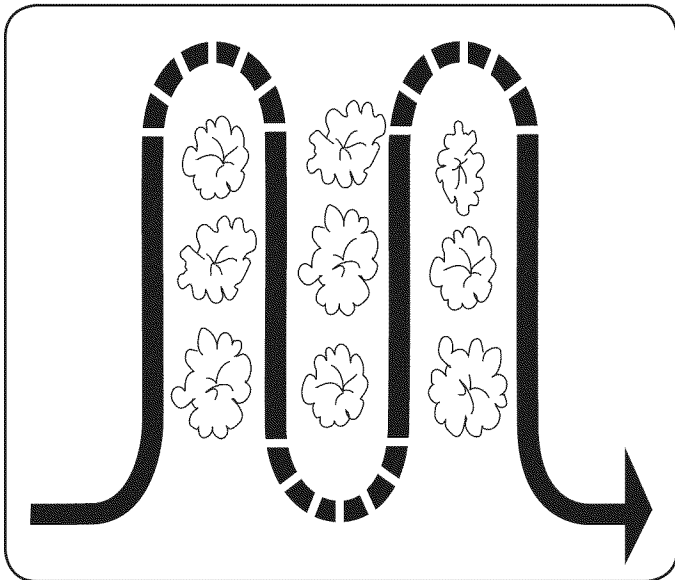

Figure 15
- When cultivating (breaking up the surface soil around the plants to destroy weeds, See Figure 15), adjust the tines to dig only 1" to 2" deep. Using the shallow tilling depth helps prevent injury to the plants whose roots often grow close to the surface. If needed, lift up on the handlebars slightly to prevent the tines from digging too deeply. (Cultivating on a regular basis not only eliminates weeds, it also loosens and aerates the soil for better moisture absorption and faster plant growth.) Watering the garden area a few days prior to tilling will make tilling easier, as will letting the newly worked soil set for a day or two before making a final, deep tilling pass.